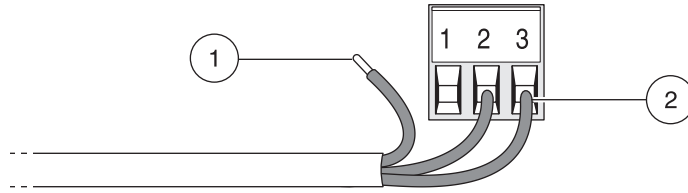
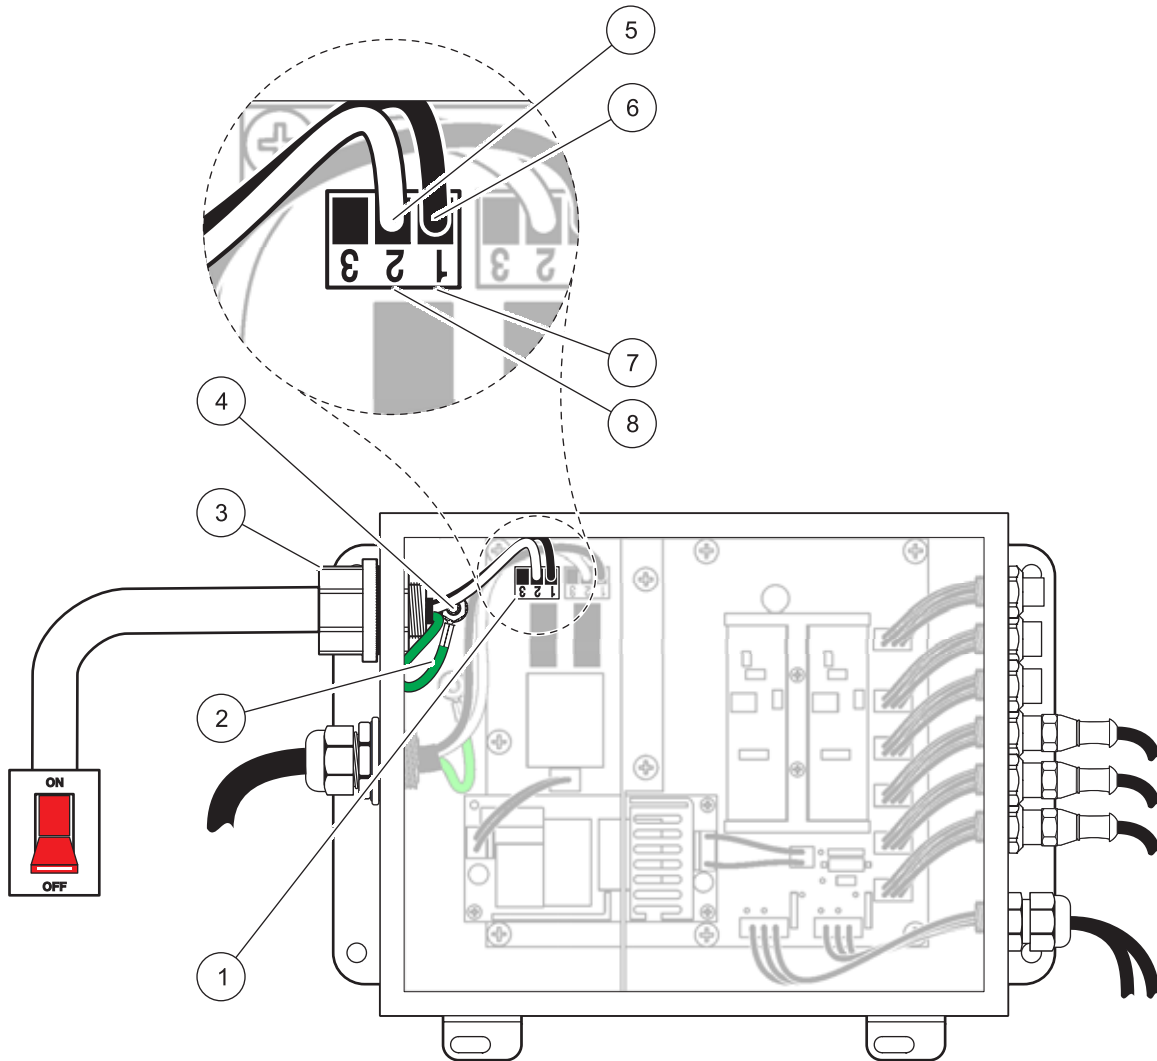

Figure 3 Example of proper wire preparation and insertion¹
Figure 4 Local disconnect and hard-wiring for line power
This manual contains a schematic-style flow and electrical hookup diagram to provide installation and maintenance information (Figure 9 on page 23). Figure 4 on page 16 displays hard-wiring and local disconnect details.
Use customer-supplied conduit fittings for hard-wiring power to the instrument (Figure 4). To ensure the proper sealing of the enclosure, make sure to select the style of conduit hardware that will seal to the junction box wall when using flexible or rigid conduit.
1. Attach a conduit fitting to the power opening on the junction box (Figure 4), and route the AC power wires through this opening.
2. A local disconnect switch or circuit breaker with sufficient current capacity for the panel and that breaks all mains powered (hot) conductors is required as shown in Figure 4 on page 16. It must be identified (marked) as the disconnect for the panel. The branch circuit breaker size for 100–115V mains circuits should not exceed 20A. For 230V the branch circuit breaker size should not exceed 10A.
3. Wire to meet local wiring codes. Wire insulation must be rated for at least 300 V, 80 °C (Table 1 and Figure 4). Prepare the wires as shown in Figure 3.
4. Connect an uninterrupted green or green-yellow 18-14 AWG ground wire to the ground stud (labeled with the protective earth ground symbol, Figure 4).
5. Connect the 18-14 AWG mains conductors to the mains power terminal block inside the enclosure. Connect the Hot and Neutral wires to the appropriately marked screw terminal. Do not leave any bare wire exposed. (See Figure 4).
¹ For wire preparation example only. See Figure 4 for exact wiring instructions for the WDMP sc.